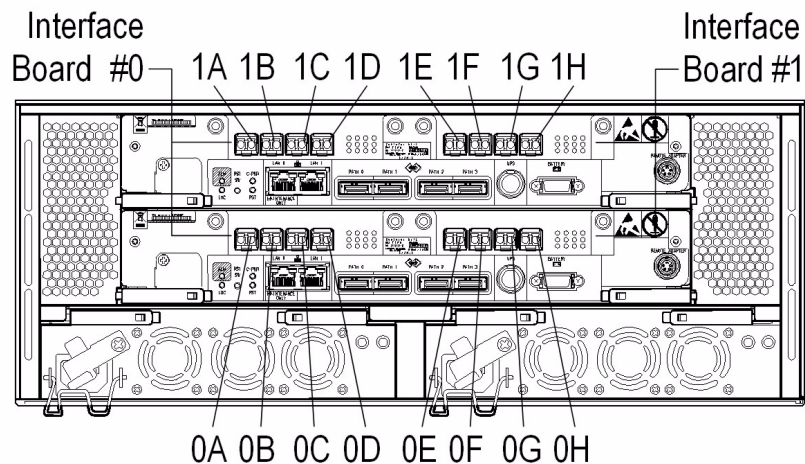

Figure 5-43: Fibre Channel Interface Cable Connection Ports
1. Connect the Fibre channel cables from the host systems to the desired Fibre Channel ports (host connectors) on the AMS 2500 control unit. Insert the connectors on the cables until they are securely fastened to the host connectors, and the lock snaps into place. See Figure 5-43.